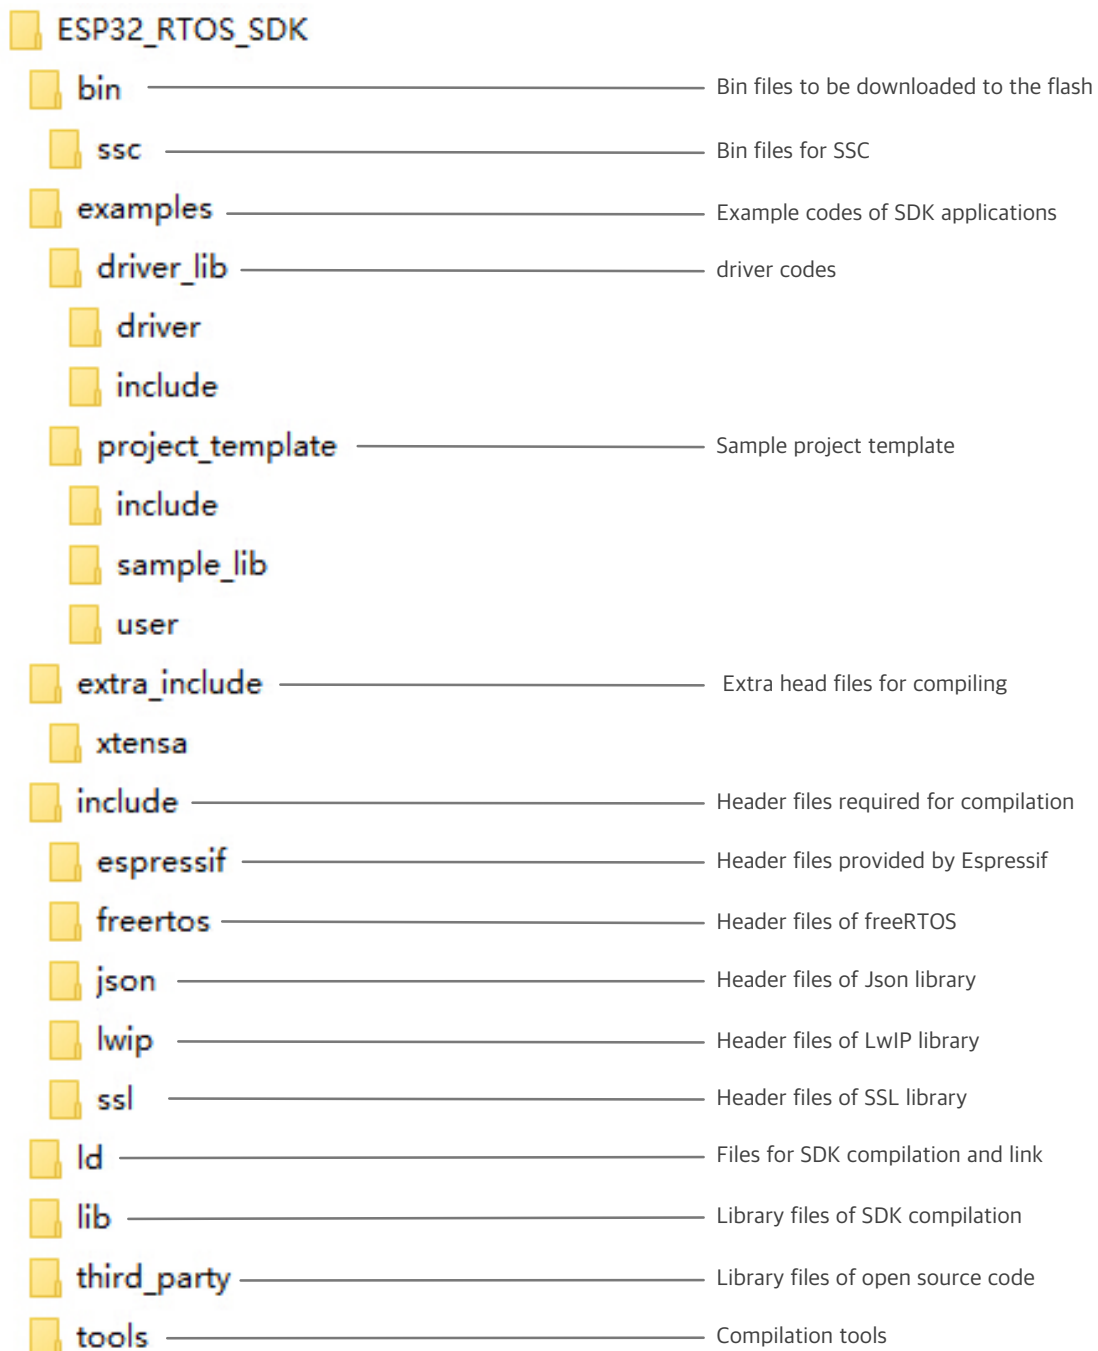

Figure 1-2. Package Components
- For the package components, refer to Figure 1-2.
- **esptool\_ESP32.py** file is in the **ESP32 RTOS SDK > tools** folder, refer to **Figure 1-2. Package Components**.